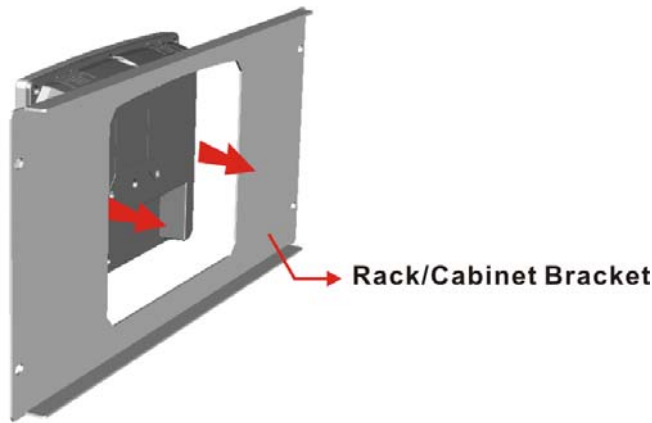

Figure 3-20: The Rack/Cabinet Bracket
- Step 1:** Slide the rear of the PPC-5152-D525 panel PC through the rack/cabinet bracket until the aluminum frame is flush against the front of the bracket (**Figure 3-20**).